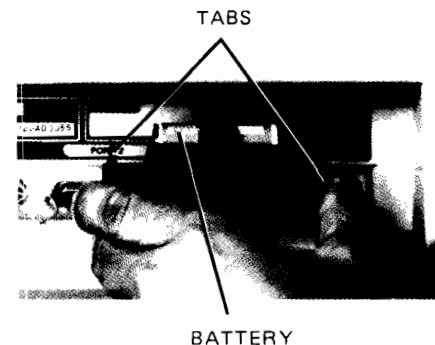

Figure 9-3. Battery Replacement.
2. Squeeze the tabs (figure 9-3) toward the center of the battery support with enough pressure to disengage the flanges which hold the battery support in the terminal, and pull down to free the battery support from the terminal.